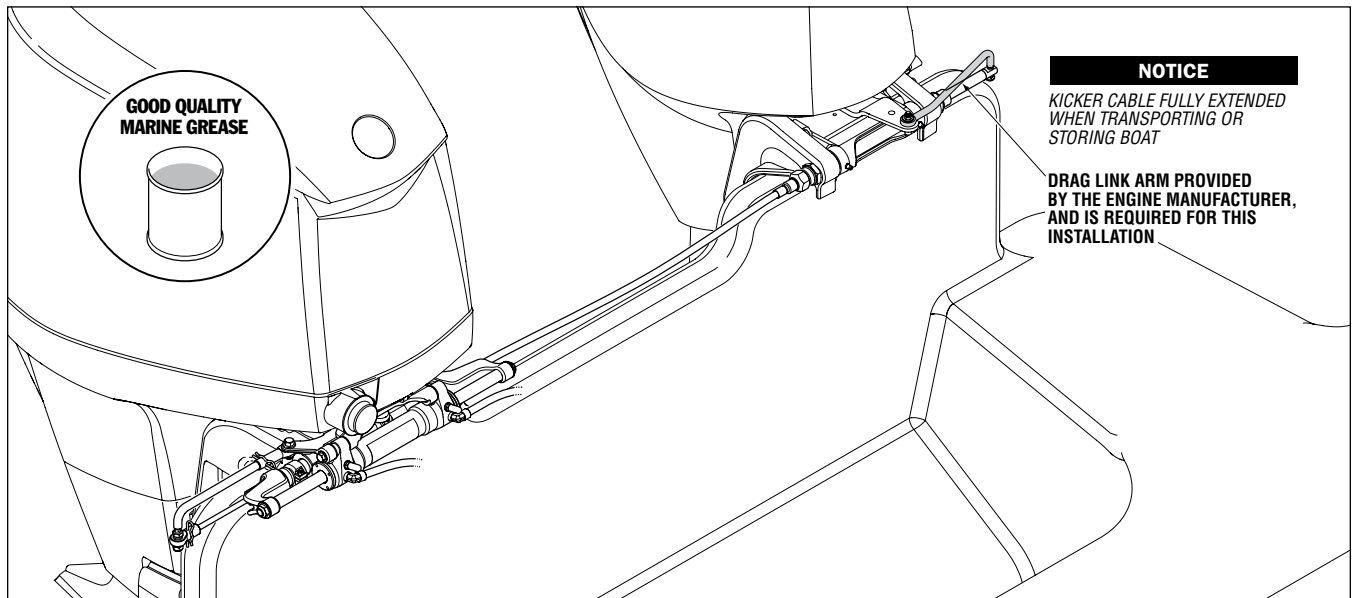

Figure 2. Additional parts required to complete installation.
- Turn steering wheel hard over so that the cable exiting the 'kicker motor' is fully EXTENDED" (see figure 2, page 3 for details).